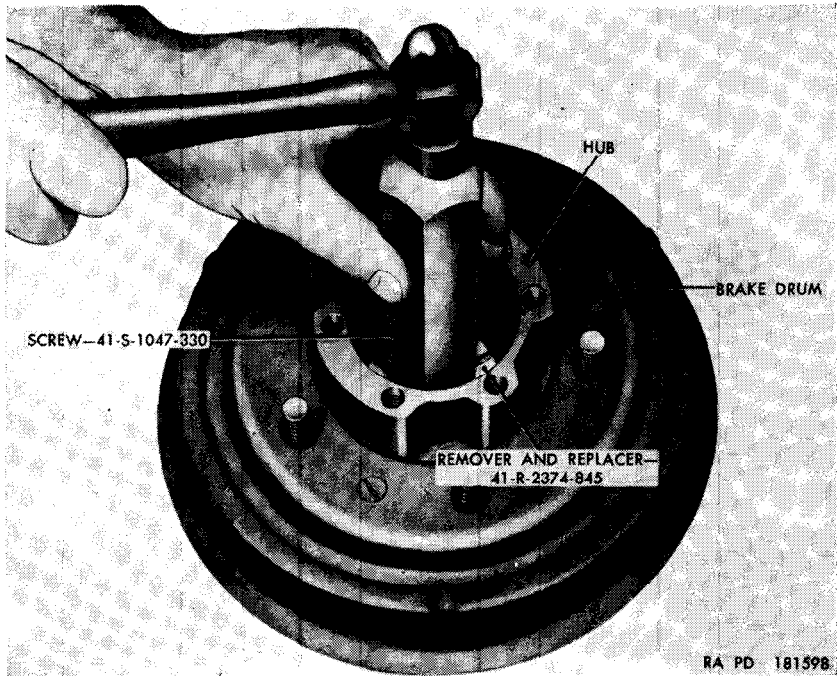

Figure 102. Removing front hub bearing cup with remover and replacer 41-R-2374-845 and screw 41-S-1047-330.
- (4) Position remover and replacer 41-R-2374-845 and screw 41-S-1047-330 (fig. 102) in the hub and drive out hub inner bearing cup. Reverse the hub, position remover and replacer 41-R-2374-845 and screw 41-S-1047-330 in hub and drive out hub outer bearing cup.
- (1) Position the hub outer bearing cup (fig. 99) in the brake drum side of the hub. Install the remover and replacer 41-R-2374-845 and screw 41-S-1047-330 (fig. 102) in the hub and drive cup into position.
- (2) Position the hub inner bearing cup (fig. 99) in the brake assembly side of the hub. Install the remover and replacer 41-R-2374-845 and screw 41-S-1047-330 (fig. 102) in the hub and drive cup into position.